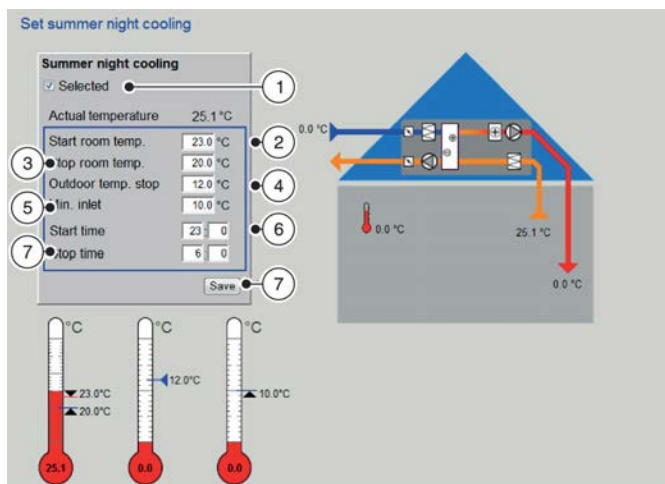

Fig. 34: Night purge
The 'Set summer night cooling' screen (Fig. 34) allows you to activate night purge and to set a period of time for night purge. The night purge function allows for the building to be cooled with outdoor air during the nights (i.e. outside of operating hours); this may be useful during the summer months. Night purge is activated as soon as all of the required settings have been made.
- ▶ Enter the room air start temperature for night purge ('Start room temp.', Fig. 34/2).
- ▶ Enter the room air end temperature for night purge ('Stop room temp.', Fig. 34/3).
- ▶ Enter the outdoor air end temperature ('Outdoor temp. stop', Fig. 34/4) for night purge.
- ▶ Enter the minimum supply air temperature for night purge ('Min. inlet', Fig. 34/5).
- ▶ Enter the night purge start time (Fig. 34/6).
- ▶ Enter the night purge end time ('Stop time', Fig. 34/7).
- ▶ Tick the checkbox (Fig. 34/1) to activate night purge.